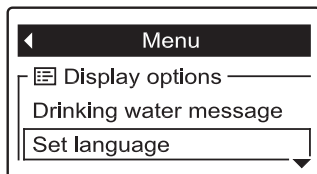

FIG. 102
2. Press the DOWN (▼) button to scroll through the menu options until **Set language** is highlighted in a box (See Figure 102). Press the SELECT (○) button.
6. Press the SELECT (○) button. The display will go back to the menu shown in Figure 102, in the newly set language.